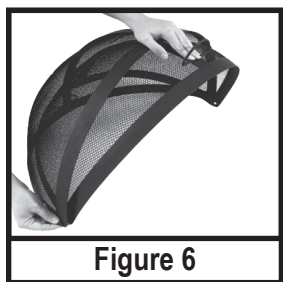

Figure 6
With both handles facing upward, place outside screens (B) over inside screens (A). Connect the screens by fastening M6x25mm Bolt Sets (C). [Figure 6]